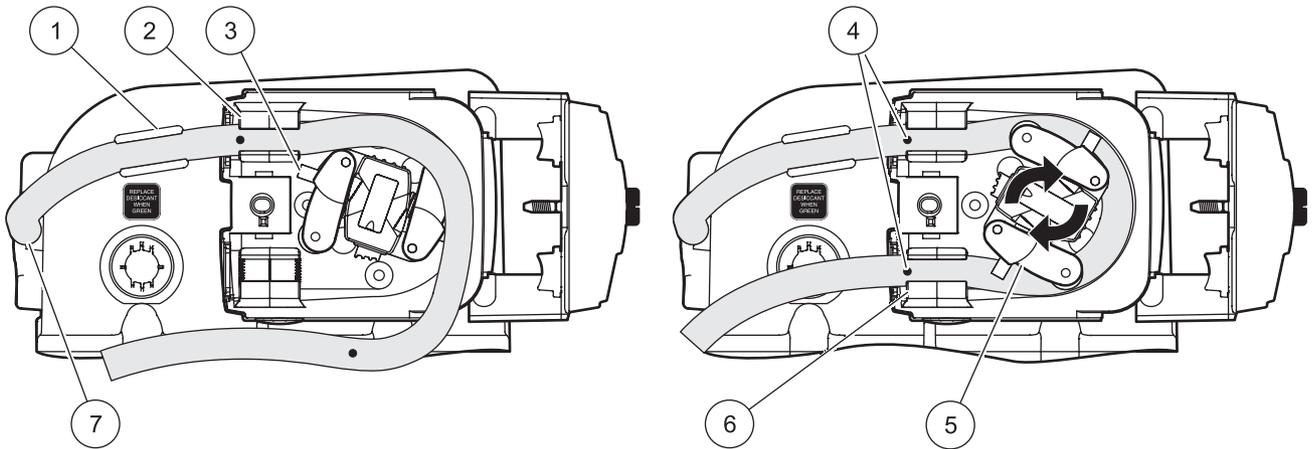

Figure 25 Pump tubing installation
1. Connect one end of the tubing to the liquid sensor fitting. Press the tubing into the pump tube guide (Figure 25).
2. Press the tubing into the upper pump tube track. Make sure that the alignment dot is in line with the upper pump tube track as shown in Figure 25.
3. Hold the tubing with one hand while rotating the pump rotor to guide the tubing around the rotor (Figure 25). The guide pins will push the tubing into place.
4. Press the tubing into the lower pump tube track. Make sure that the alignment dot is in line with the lower pump tube track as shown in Figure 25.